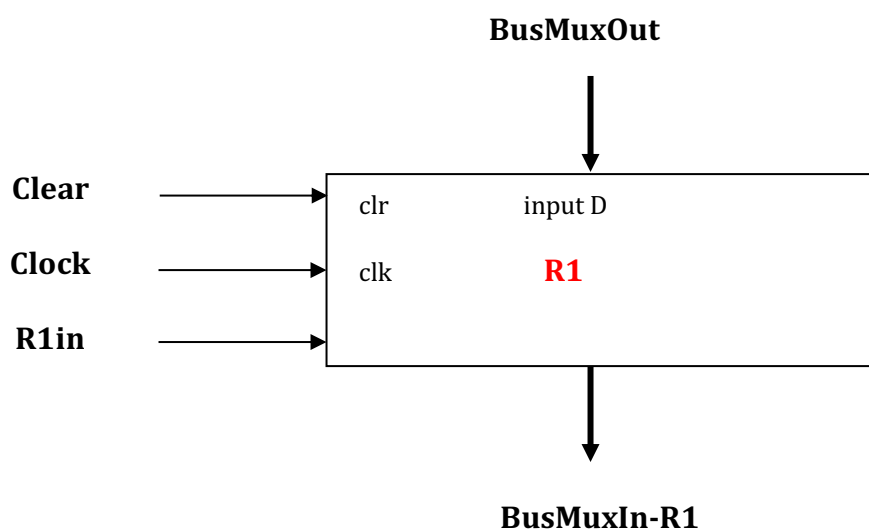
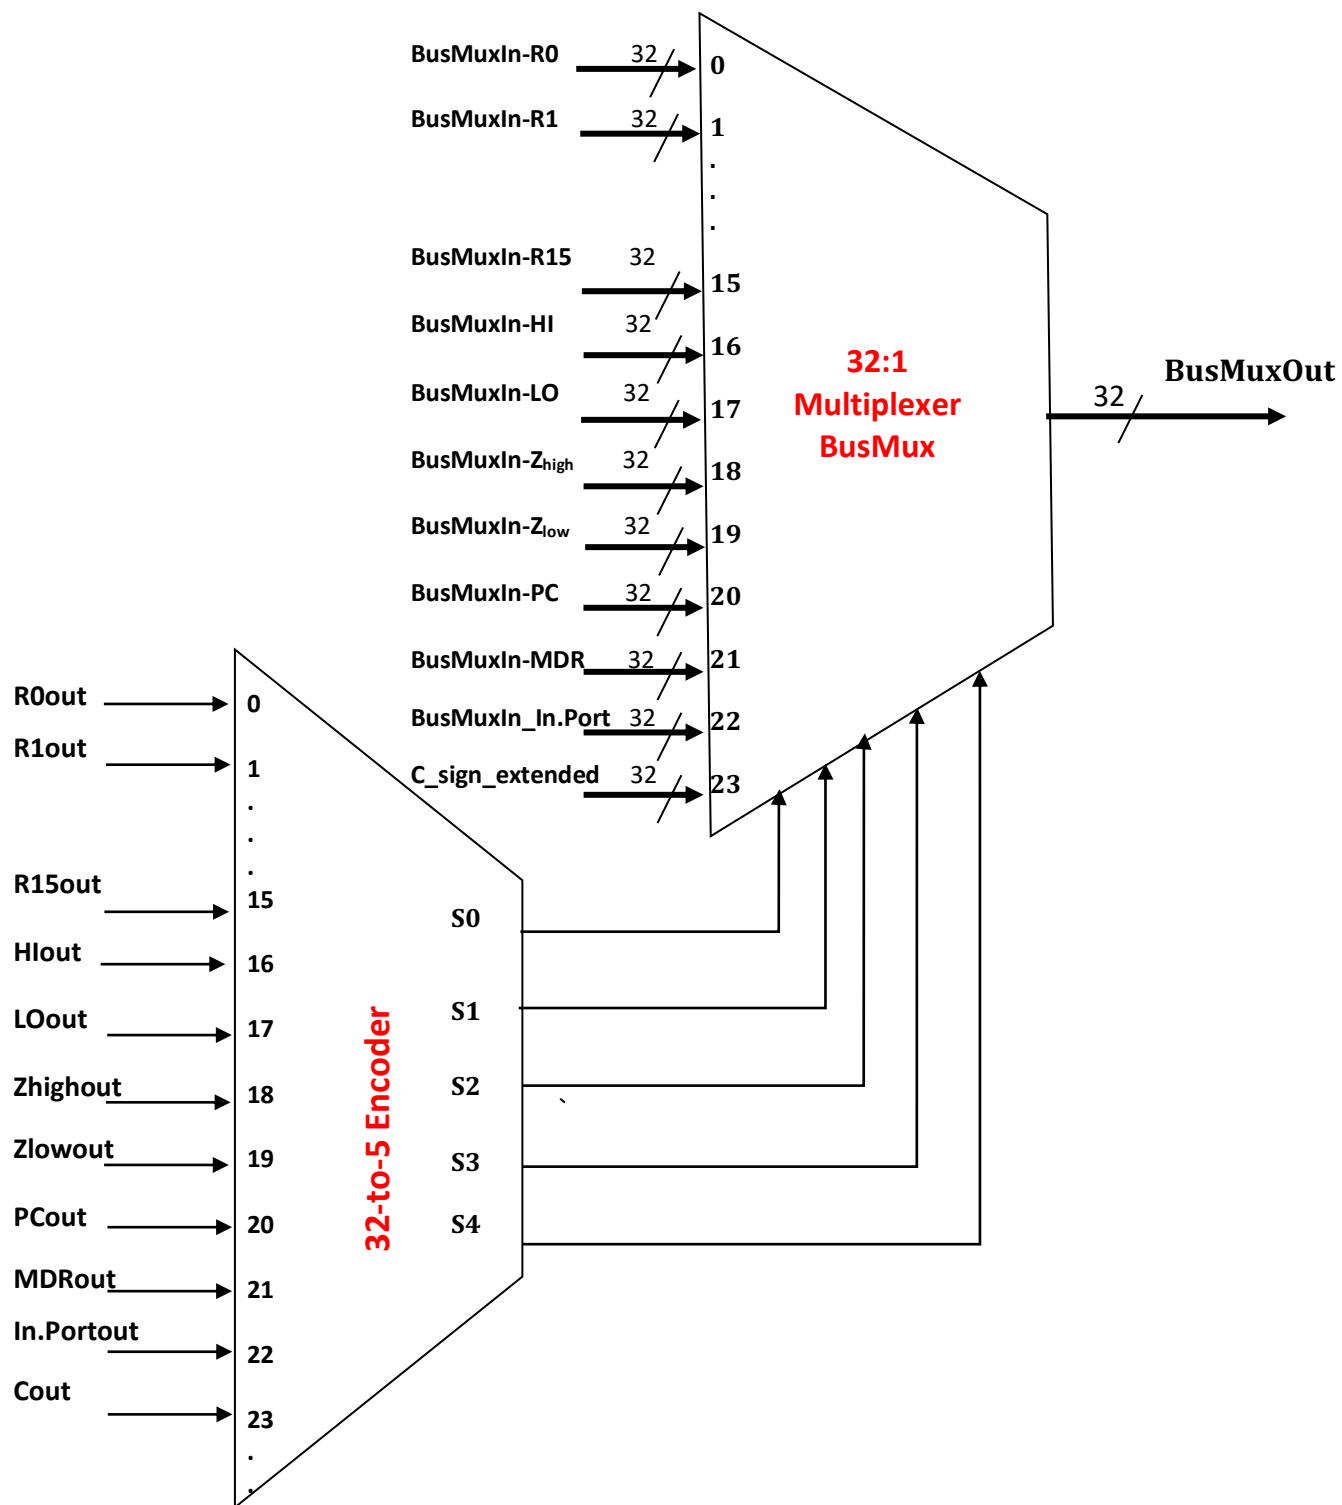

Figure 2: A typical register
Figure 3: A typical Bus
A Typical Register: Figure 2 shows the block diagram for a typical register, such as *R1* (there will be a minor revision to *R0* circuitry that we will discuss it in Phase 2 when we design the “Select and Encode Logic”). The input to the register, **BusMuxOut**, is coming directly from the bus. The contents of the bus is saved onto the register using the synchronous *Clock* signal and the *R1in* signal. The *R1in* signal is the control signal that allows the data from the bus to be written onto the register *R1*. The *R1out* signal is the control signal that allows *R1* to drive the bus (see Figure 3). The *Clear* signal is used to reset the registers to a known state.
Bus design: One of the important aspects of the datapath is its bus. The Bus may be implemented by tri-state buffers, or by a multiplexer and an encoder. Figure 3 shows a typical bus design using the multiplexer/encoder approach. The Mini SRC Bus is implemented using a 32:1 Multiplexer, **BusMux**, with five select input signals coming from a 32-to-5 encoder. The idea is to choose only one of the registers *R0* to *R15*, *HI*, *LO*, *PC*, *MDR*, *In.Port*, *Z_{high}*, or *Z_{low}* as the source of the bus. The output of the BusMux, **BusMuxOut**, is the Bus itself. The inputs to the 32-to-5 encoder, which could select any of the above registers, are the control signals generated by the Control Unit (in Phase 3) or by the “Select and Encode Logic” (in Phase 2). However, in Phase 1, we will just simulate these signals.
2. Design the bidirectional Bus (Figure 3) and connect the registers that you designed in Step 1 to the Bus.